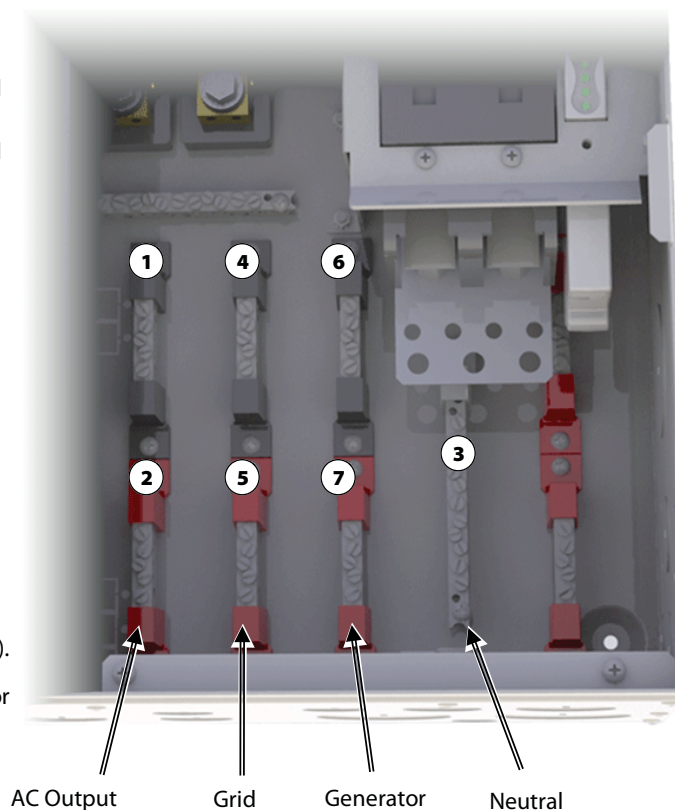

Figure 33
If no bypass assembly is used, connections should be made directly to each TBB from the circuit breakers for the inverter, AC sources, and loads. These connections are designated in Figure 33.
1. Designate the top AC circuit breaker as the inverter AC output disconnect. Install a wire from the black AC output TBB (as shown in Figure 33. to the disconnect marked by **1**.
4. Designate the third AC circuit breaker from the top as the disconnect for one AC source (**GRID** or **GEN**). Install a wire from the black source circuit TBB (as shown in Figure 33) to the disconnect marked by **5**.
8. Install a wire on the inverter's **NEU** terminal and connect it to the GSLC's neutral TBB (as shown in Figure 33). *Only one neutral connection is required.*